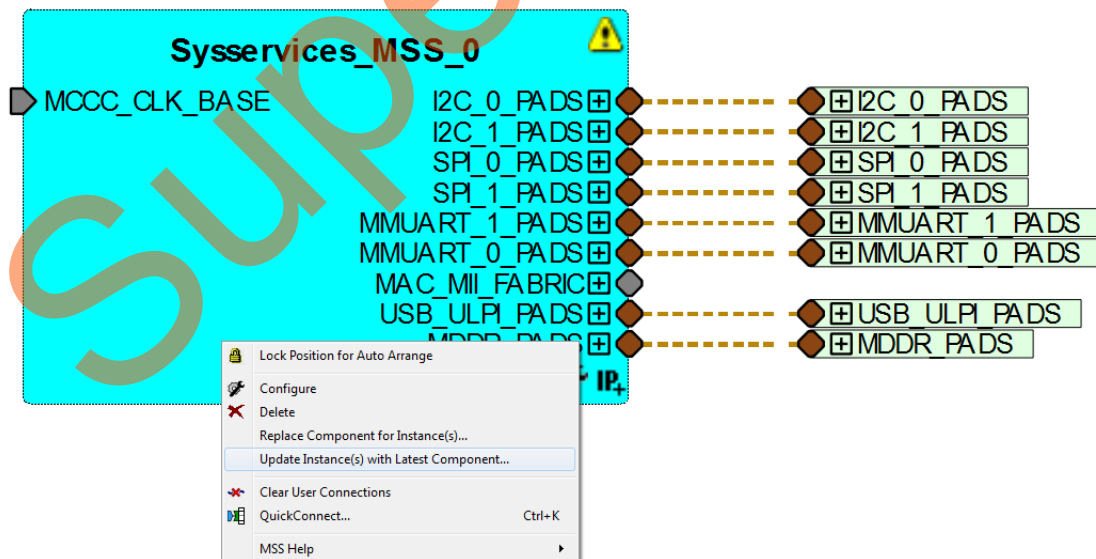

Figure 13 • Updating the Sysservices_MSS_0
14. Select **File > Save** to save **Sysservices_MSS**. Select the **Sysservices** tab on the Smart Design canvas, right-click **Sysservices_MSS_0**, and select **Update Instance(s) with Latest Component**, as shown in Figure 13.